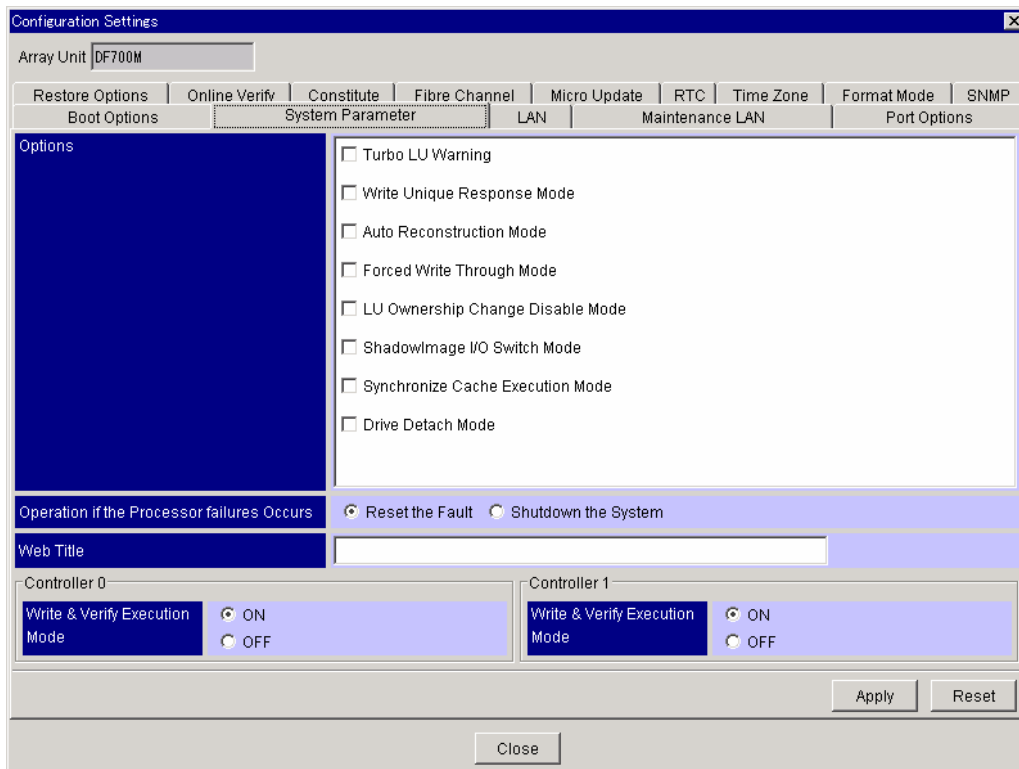

Figure 5.22 Setting System Parameters
3. Click the **System Parameter** tab (see Figure 5.22). For a detailed description of the **System Parameter** tab, refer to section 5.1.2.